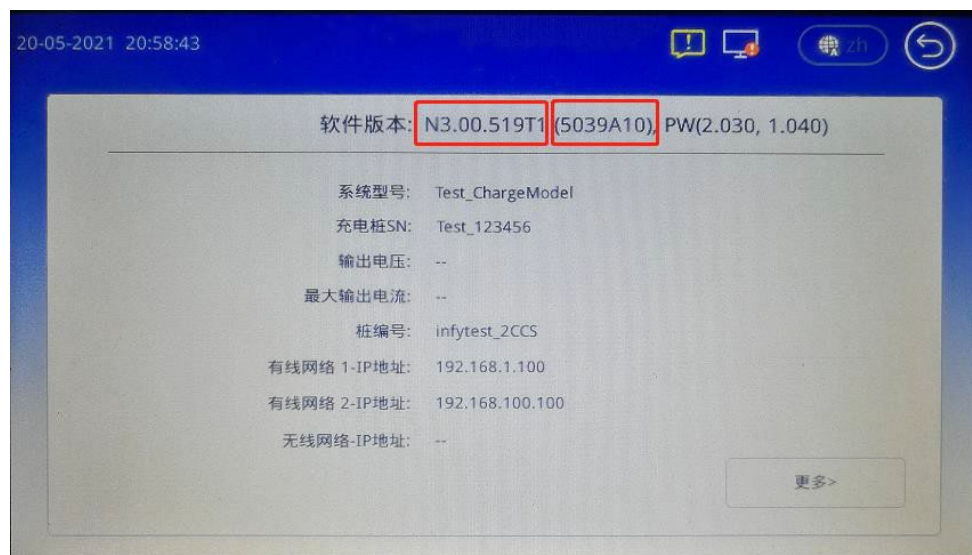

Figure 11.1 Software Version
- The following figure 11.1 software version is for reference only, the actual situation shall prevail.